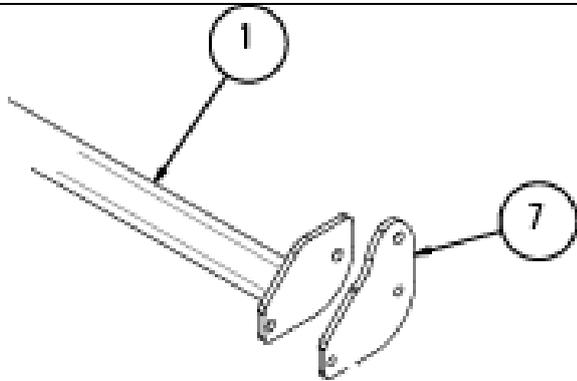

Figure 3 – Fit the End Plates.
2. Fit the End plates (item 7), fitting the shipping hook nut in the topmost hole, as shown in Figure 3.